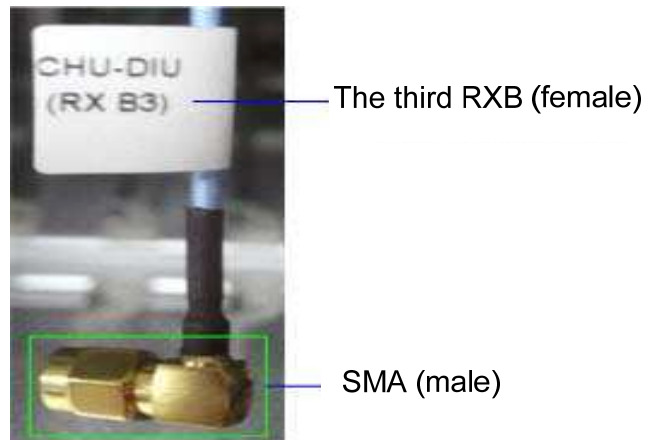

Figure 3-16 Cable Diagram
Step 7 Connect all cables as shown in Figure 3-16.